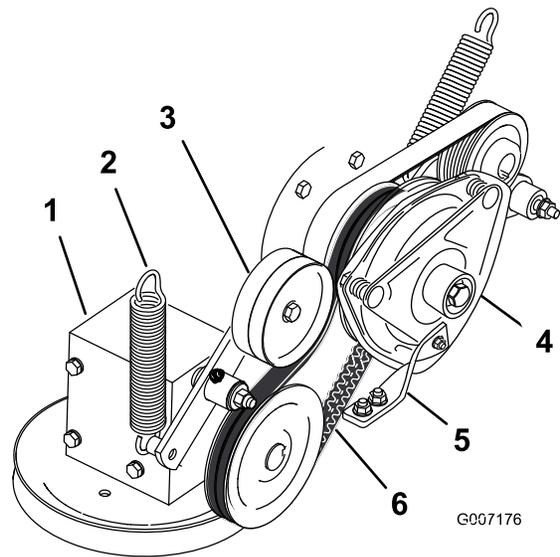

Figure 89
4. Remove the spring from the idler arm (Figure 89).
7. Install the PTO-drive belt around the clutch pulley and the gearbox pulley (Figure 89).
9. Install the spring to the idler arm (Figure 89).